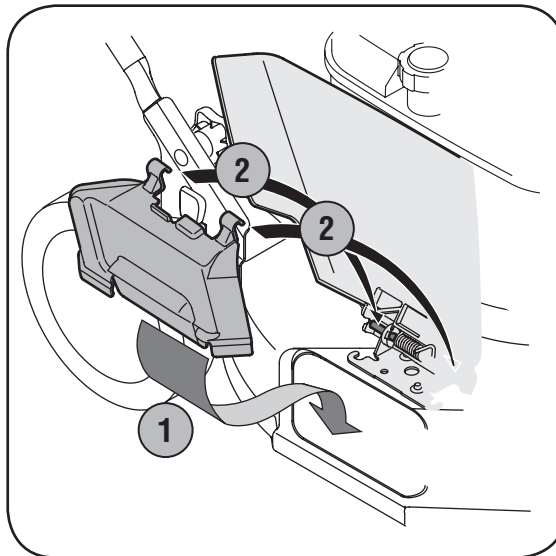

Figure 3-7: Install the optional mulching baffle to use the mower as a mulcher.
1. Lift up and hold the side discharge chute. Insert bottom lip of the mulching baffle inside the chute opening. See Figure 3-7.